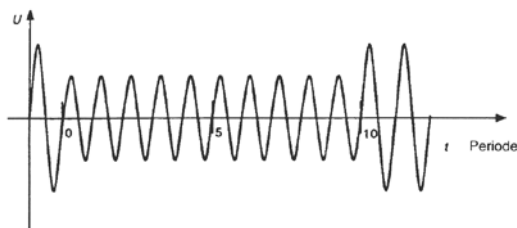

Fig.1: Voltage dips
**Voltage dips:** The switching between the rated voltage  $U_1$  and the variable voltage  $U_2$  ( $U_2$  always  $\leq U_1$ ) is always erratic. It can be set at each phase angle of the mains begin or end. The standard test is defined at 40%, 70% and 80%. This test requires the injection of the same phase voltage  $U_2$  at the rear of the device. A step transformer (VIS 740) fulfilled the standard requirement. **Fig. 1**
Voltage dips (fig. 1)